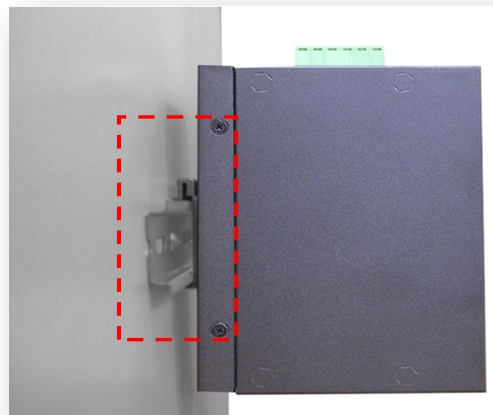

Figure 3.3
4. Lightly pull down the bracket onto the rail as shown below in *Figure 3.3*.